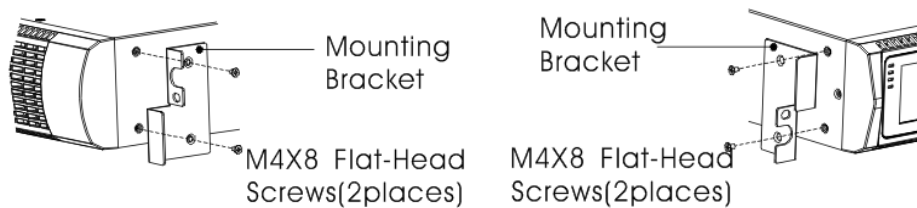

FIG.5 Installing the Mounting Brackets
9. Align the mounting brackets with the screw holes on each side of the UPS and fix with the supplied M4×8 flat-head screws(see FIG. 5)